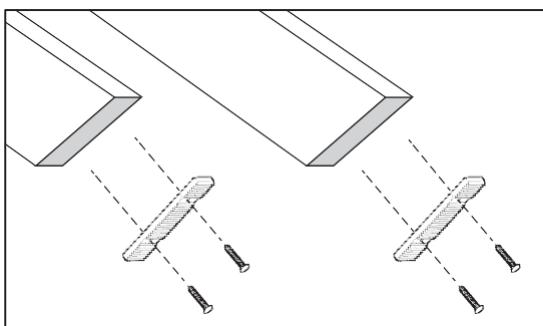

FIGURE 11
- E. Install rubber tread to bottom ends of rail using 1" screws provided. Drill 1/16" pilot holes into wood prior to installing screws to prevent splitting of rail (Figure 11).